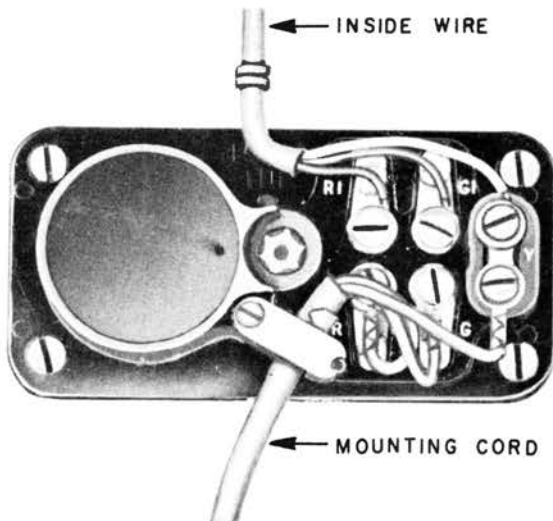

Fig. 5 — Cording Diagram, 1542A Inductor
4.02 Installation of the 1542A inductor is shown in Fig. 5. It is used as a connecting block for the telephone set cord. If used on a wall-type set, it should be located near the instrument.